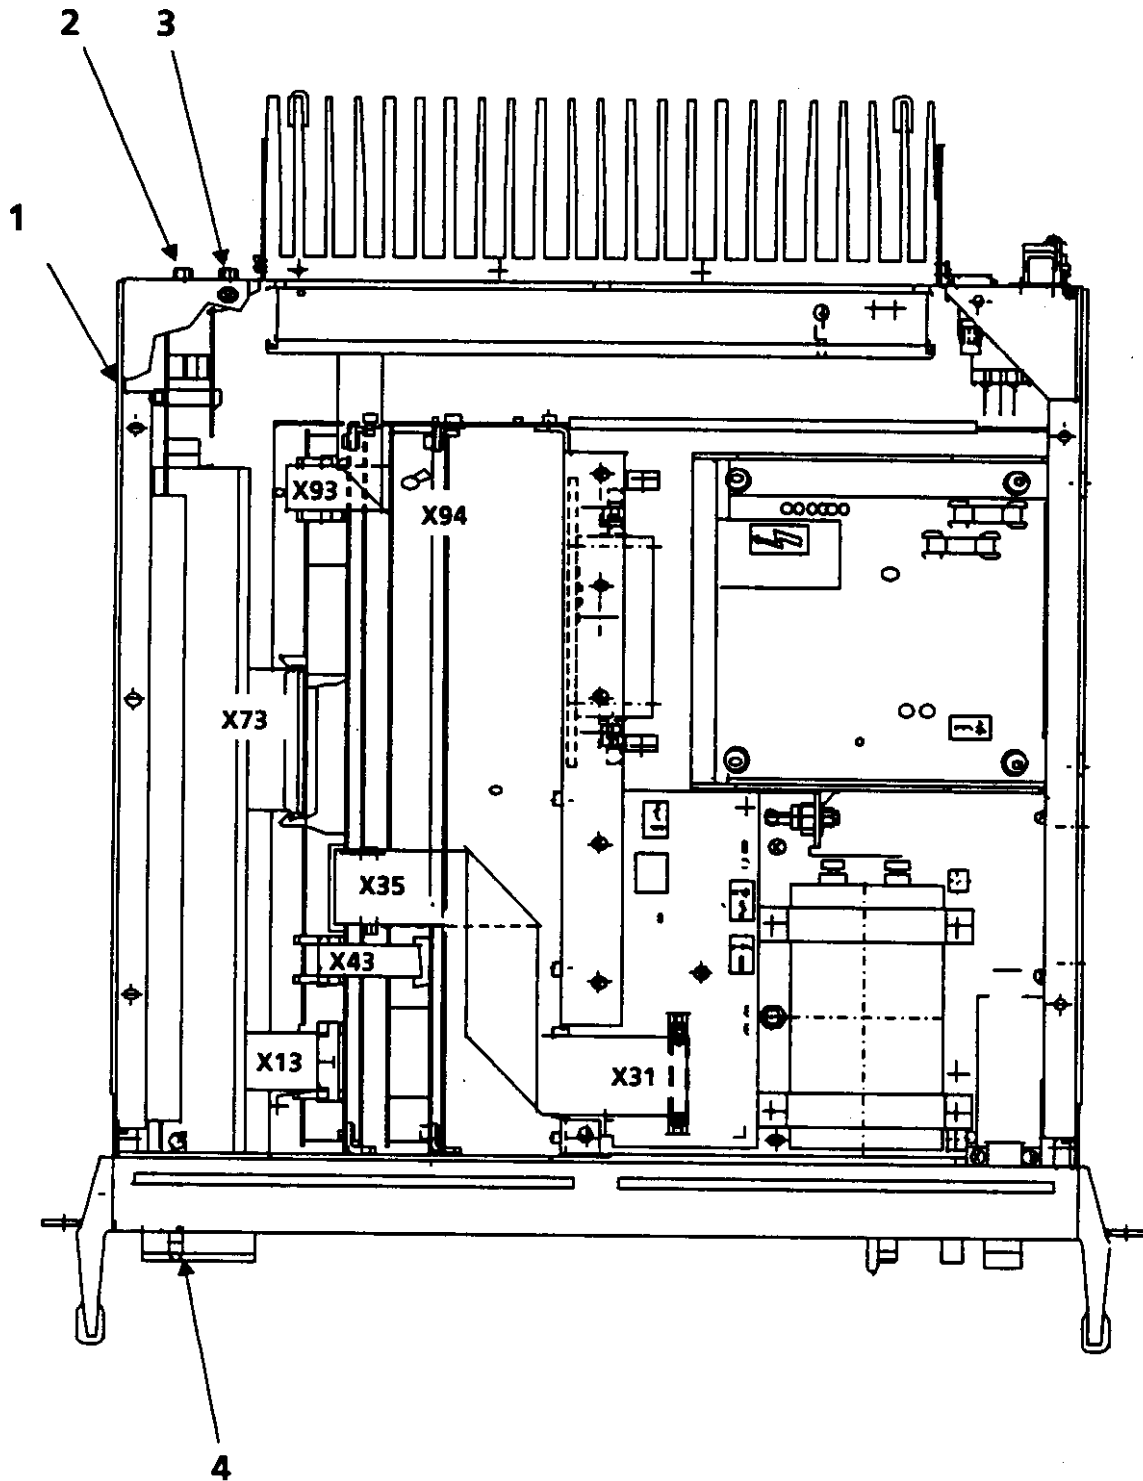

Fig. 4.4 Replacement of VHF Rx Unit and Interface 1
(See Fig. 4.4)
3. At the equipment rear disconnect mains (AC) and battery (DC) connectors.
4. Undo two Phillips screws (4, Fig. 4.4) on the front of the Rx Unit EU 231 and pull the unit out to the front.